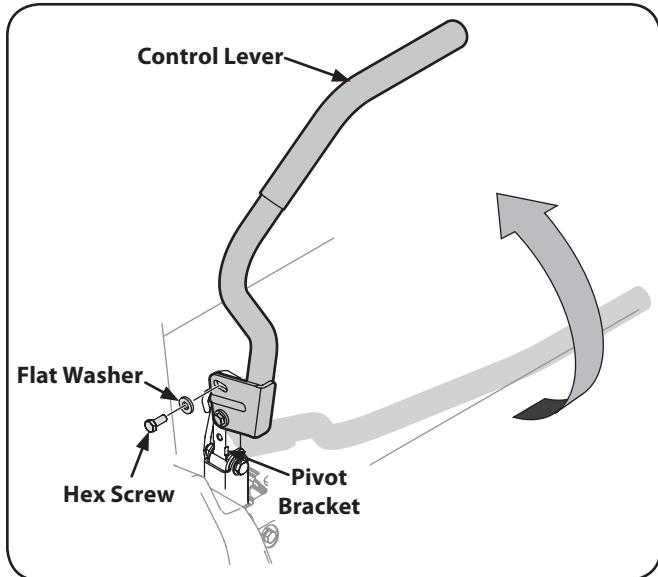

Figure 3-3
2. Lift and swing that control lever upward until the slotted hole in the lever bracket aligns with one of the holes in the pivot bracket. See Figure 3-3.
3. Slide the flat washer onto the hex screw. From the outside, insert the hex screw with washer through the control lever slot and the hole of the pivot bracket. See Figure 3-3. Using a $\frac{1}{2}$ " wrench snug the screw, but do not fully tighten.